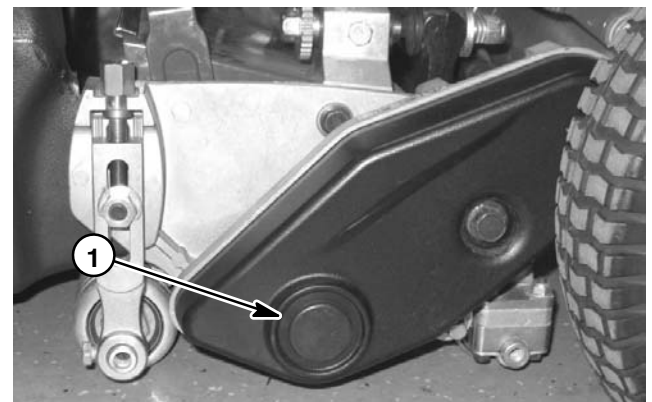

Figure 16
4. Remove plug from the reel drive cover on the left side of the reel assembly (Fig. 16).
8. Install reel drive cover plug when backlapping operation is completed (Fig. 16).